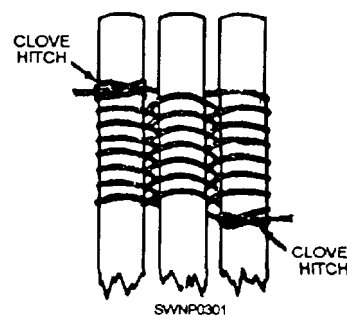

Figure 6-54.—Alternate lashing for a tripod.
a. An alternate procedure (fig. 6-54) can be used when slender poles not more than 20 feet long are being used or when some means other than hand power is available for erection.